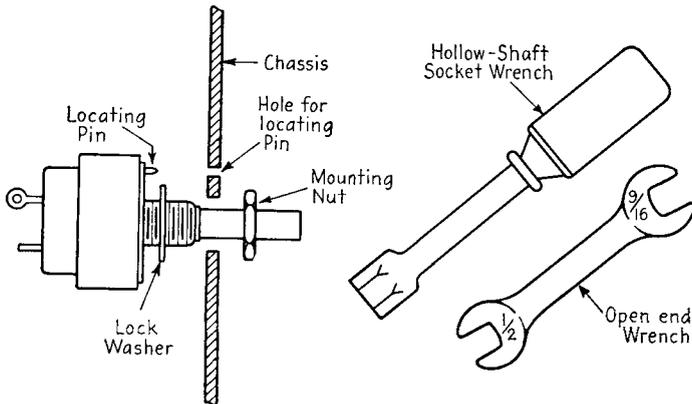

FIG. 11-15. Mounting the volume control.
5. Slip the replacement control through the chassis hole, using a lock washer or locating pin, as shown in Fig. 11-15. If there is no hole for the locating pin, bend it down if it is metal or snap it off if it is bakelite. If this is not done, the locating pin will force the control at